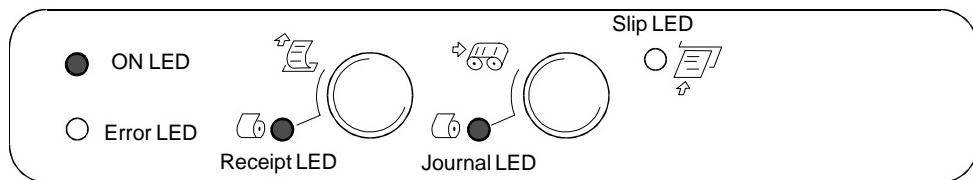

Figure 6-6
6. Returns to the Adjustment Menu of Fig. 6-6.
1. Return to the Adjustment Menu of Fig. 6-6.